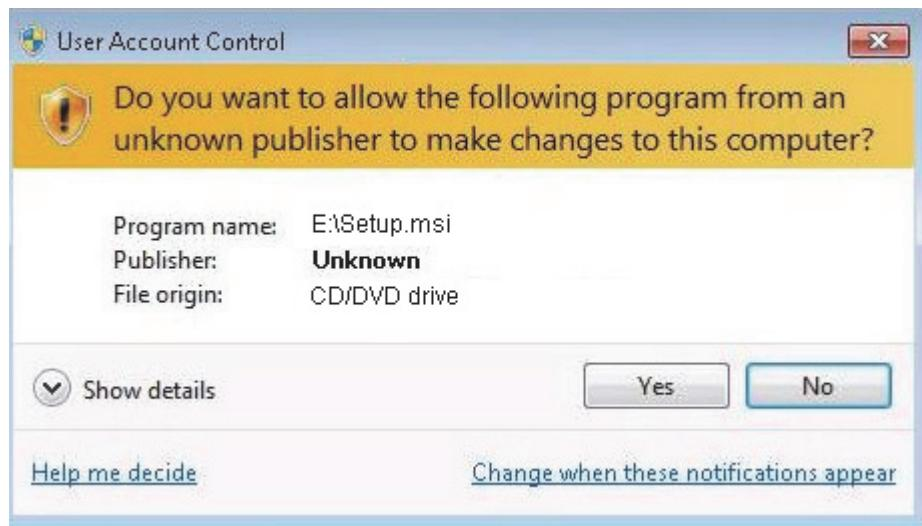

Figure 5-37. Selecting Yes, Make Changes To This Computer
2. Select **TPRO/TSAT Control Utility**. When prompted “Do you want to allow the following program from an unknown publisher to make changes to this computer?” as shown in Figure 5-37, click **Yes**.